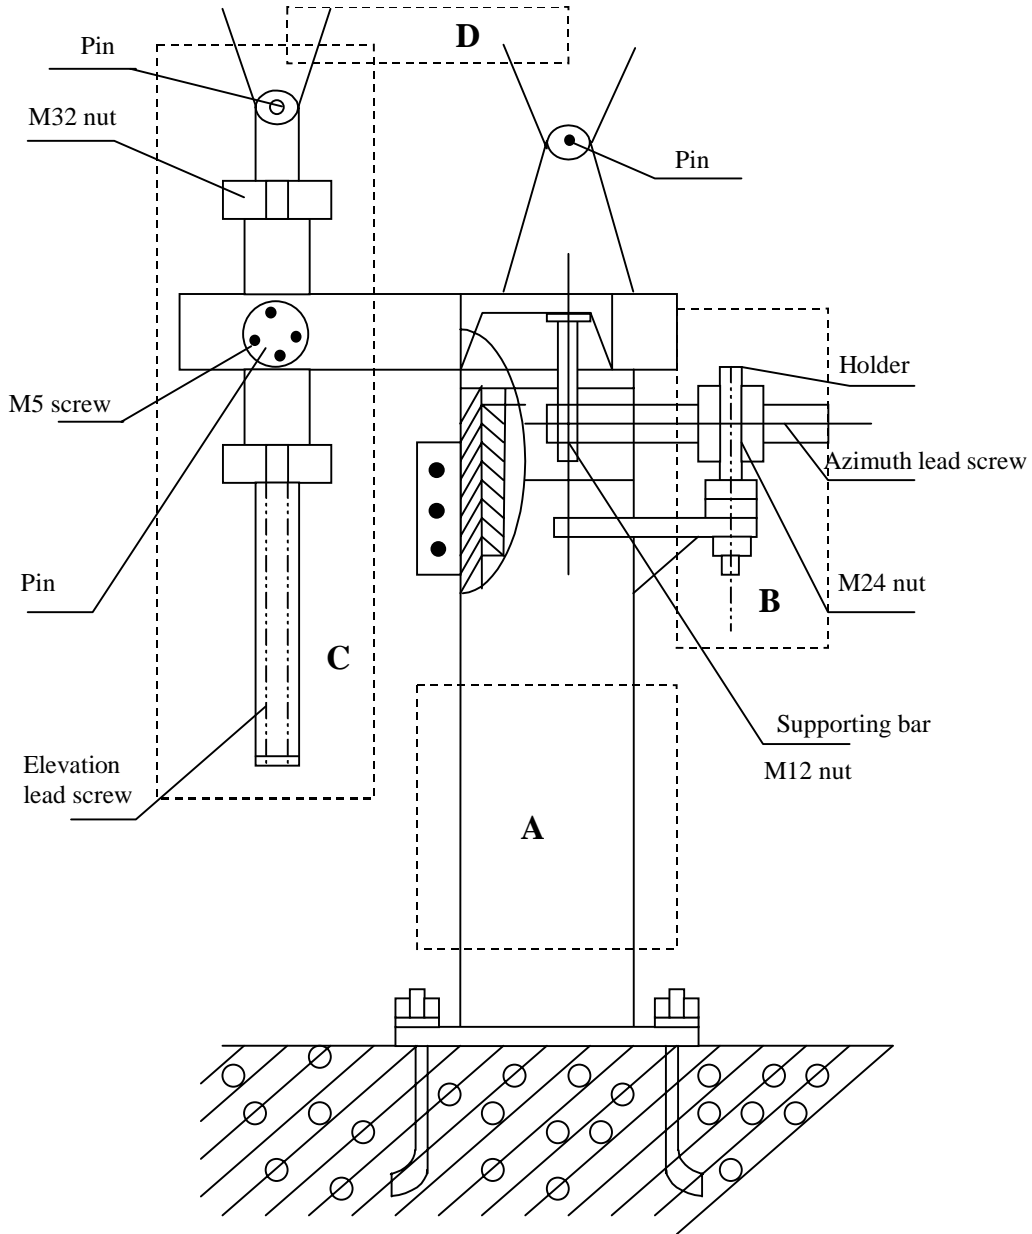

Fig. 5 Azimuth and elevation device installation
2.3.3. Azimuths and elevation device installation (See Fig. 5)